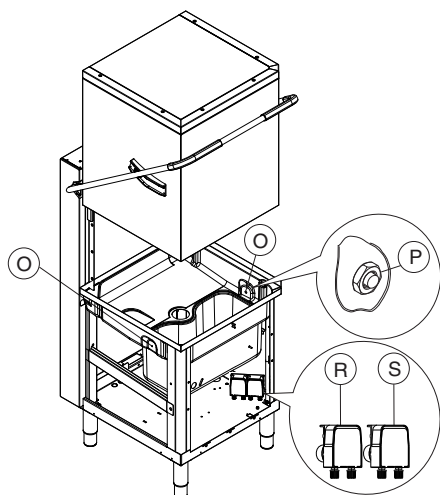

Figure 19 Automatic dispenser arrangement
1. Dishwasher with incorporated detergent dispenser (Figure 19).
2. Dishwashers with incorporated peristaltic rinse-aid dispenser (Figure 19).
Connections for automatic detergent dispenser (Figure 19)